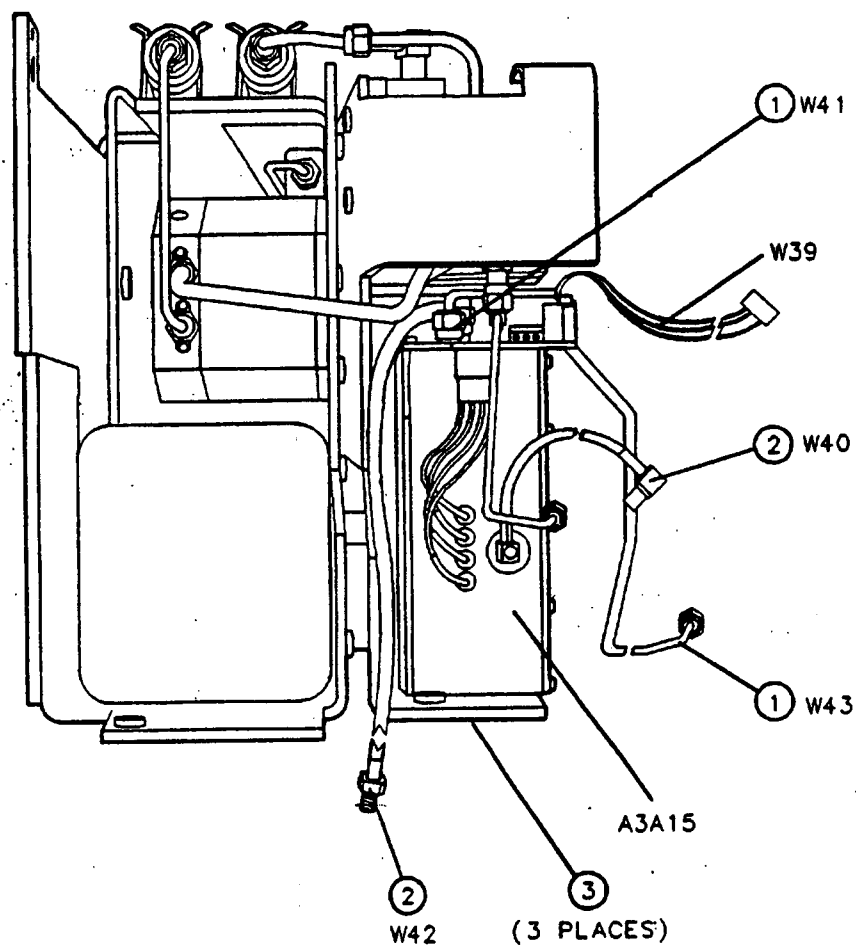

Figure 3-11. A3A15 Tracking Generator Replacement
4. Disconnect the W41 and W43 semirigid cables (1) from the A3A15 Tracking Generator. See Figure 3-11.
5. Disconnect the W40 and W42 coaxial cables (2) from the A3A15 Tracking Generator.
6. Remove the three screws (3) that secure the A3A15 to the "B" bracket.
2. Replace the three screws (3) that secure the tracking generator to the "B" bracket. See Figure 3-11.
3. Connect the W40 and W42 coaxial cables (2) to the A3A15 Tracking Generator.